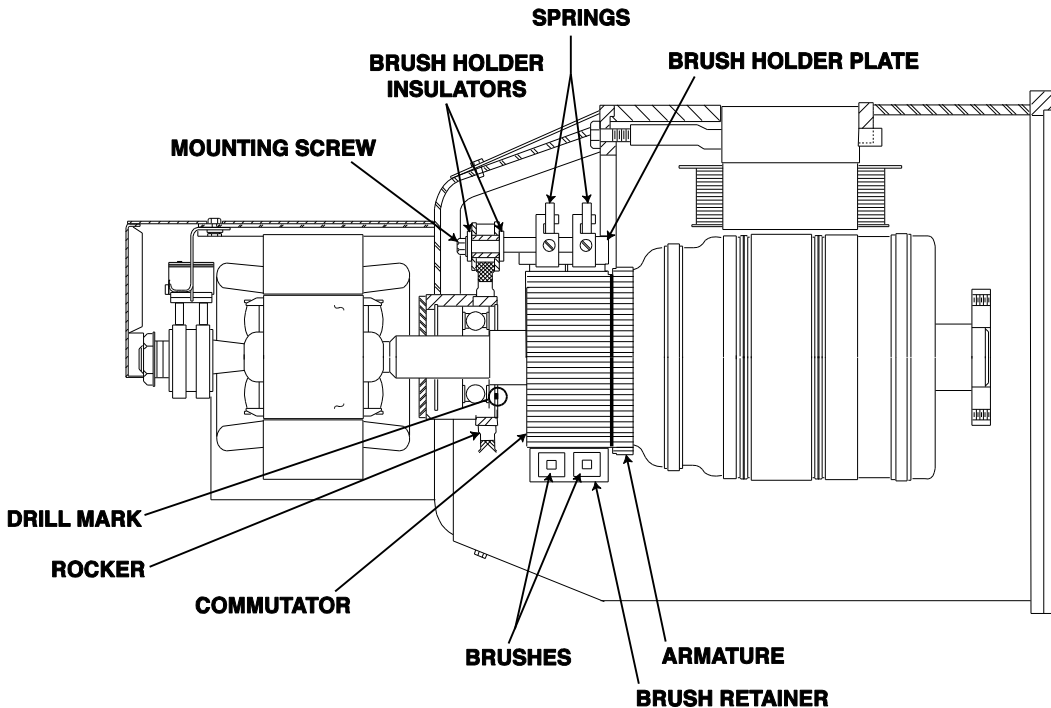

Figure 15
10. Note the drill spots marking the position of the exciter bracket and the rocker. It is very important that these marks be precisely aligned during reassembly. **See Figure 15.**
18. Mount the exciter stator/end bracket assembly to the welding generator frame. Carefully line up the drill spot between the two mating parts. Carefully and evenly tighten the four mounting bolts. **See Figure 15.**